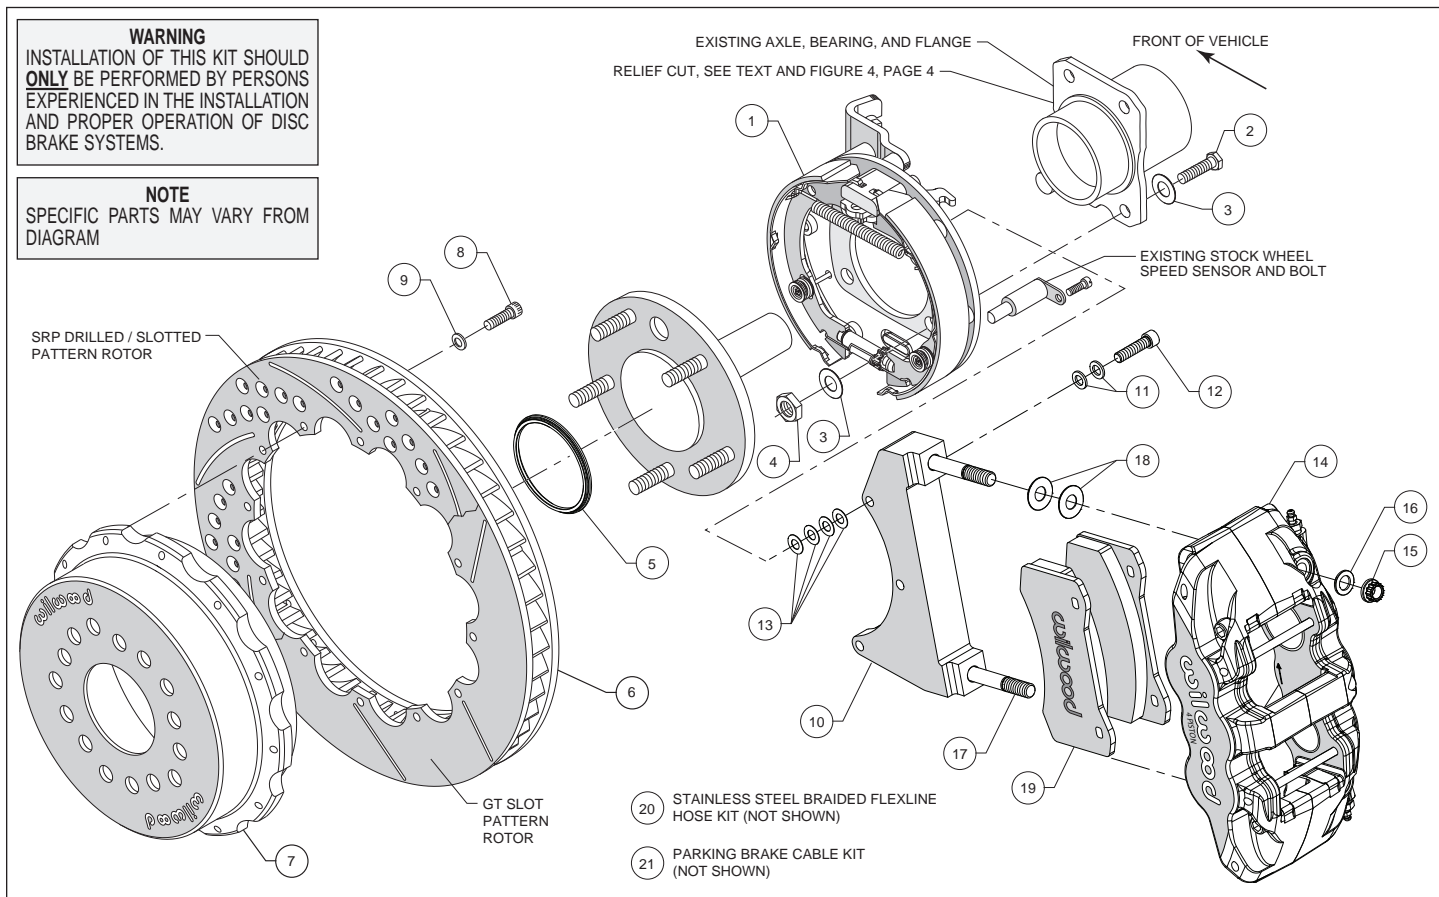
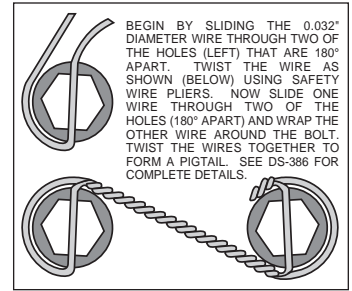

Figure 1. Typical Installation Configuration
Figure 5. Safety Wire Diagram
Assembly Instructions (numbers in parenthesis refer to the parts list, and Figure 1 on the preceding pages): **CAUTION:** All mounting bolts must fully engage threaded holes.
- Orient the bracket assembly (1), as shown in Figure 1, and mount to the axle housing flange using bolts (2), washers (3) and nuts (4), Figure 1. Ensure that the bracket assembly backing plate fits flush against the axle housing flange. Apply red *Loctite*® 271 to the bolt threads and torque to 30 ft-lbs.
- Orient the rotor (6) and the hat (7) as shown in Figure 1 and Photo 1. Attach rotor to hat using bolts (8) and washers (9). Using an alternating sequence, apply red *Loctite*® 271 to the threads, and torque to 155 **in-lbs**. For an added measure of security, the bolts may be safety wired using standard 0.032 inch diameter stainless steel safety wire as shown in Figure 5. Refer to Wilwood's data sheet DS-386 (available at www.wilwood.com/Pdf/DataSheets/ds386.pdf) for complete safety wire installation instructions.
- Slide the rotor registration adapter (5) onto the axle flange with the smaller O.D. facing toward the rotor/hat, Photo 2.
- Align the correct hole pattern in the rotor/hat with the stud pattern on the axle flange and slide into place, Figure 1 and Photo 3. **NOTE:** The rotor/hat must fit flush against the axle flange or excessive rotor run out may result. Install three lug nuts (finger tight) to keep the rotor/hat assembly in place while continuing with the installation. **NOTE:** Some OEM and after market axles come with stud sizes larger than 0.50" diameter. Verify stud size and have a qualified machine shop drill the bolt circle of the hat/rotor to the correct stud size, if necessary.
- NOTE:** Please reference the caution statement at the beginning of the assembly instructions. The caliper mounting bracket (10) should be installed first with clean, dry threads on the mounting bolts. Install the caliper bracket to the bracket kit assembly (1) using bolts (12), and two washers (11), as shown in Figure 1. Initially place four .015" thick shims (13) on each bolt between the bracket kit assembly and the caliper bracket. Temporarily tighten the mounting bolts. **NOTE:** The bracket must tighten squarely against the back side of the bracket kit assembly. Inspect for interference from casting irregularities, machining ridges, burrs, etc. Later, after the caliper alignment has been checked, the mount bolts will be secured using red *Loctite*® 271.
- Lubricate the caliper mounting studs (17) with lightweight oil. Initially place two .030" thick shims (18) on each stud between the caliper and the bracket, as shown in Figure 1 and Photo 4. Mount the caliper (14) onto the bracket (10) using lock nuts (15) and washers (16), Figure 1. Temporarily tighten the lock nuts and view the rotor through the top opening of the caliper. The rotor should be centered in the caliper, Photo 5. If not, adjust by adding or subtracting shims (13) between the bracket kit assembly (1) and the brakcet. Always use the same amount of shims on each of the three mounting bolts. **NOTE:** The ends of the mounting bolts must fully engage, but not